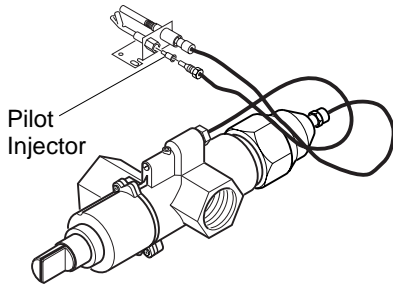

Figure 17 - Installing Propane/LP Pilot Orifice
- Gently loosen and remove the pilot line connection from the bracket (see Figure 17, page 11).
2. Replace the injector (see Figure 17) with the propane/LP pilot injector with the red stripe.